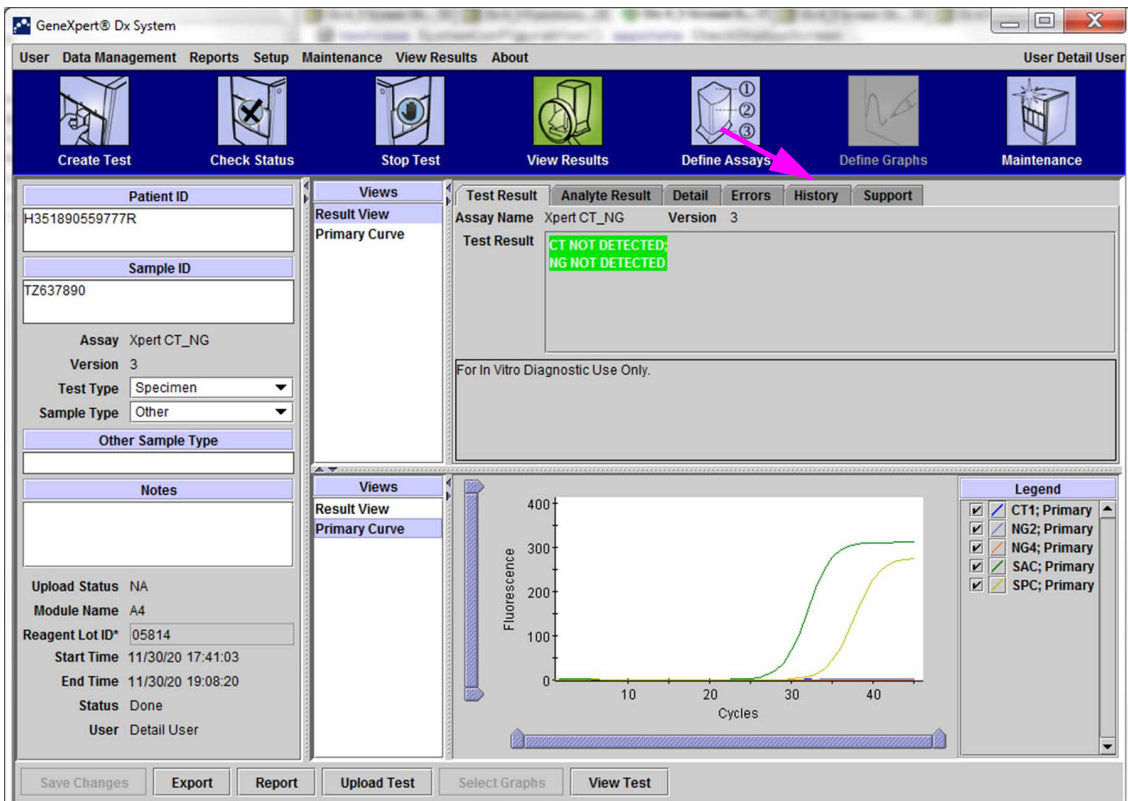
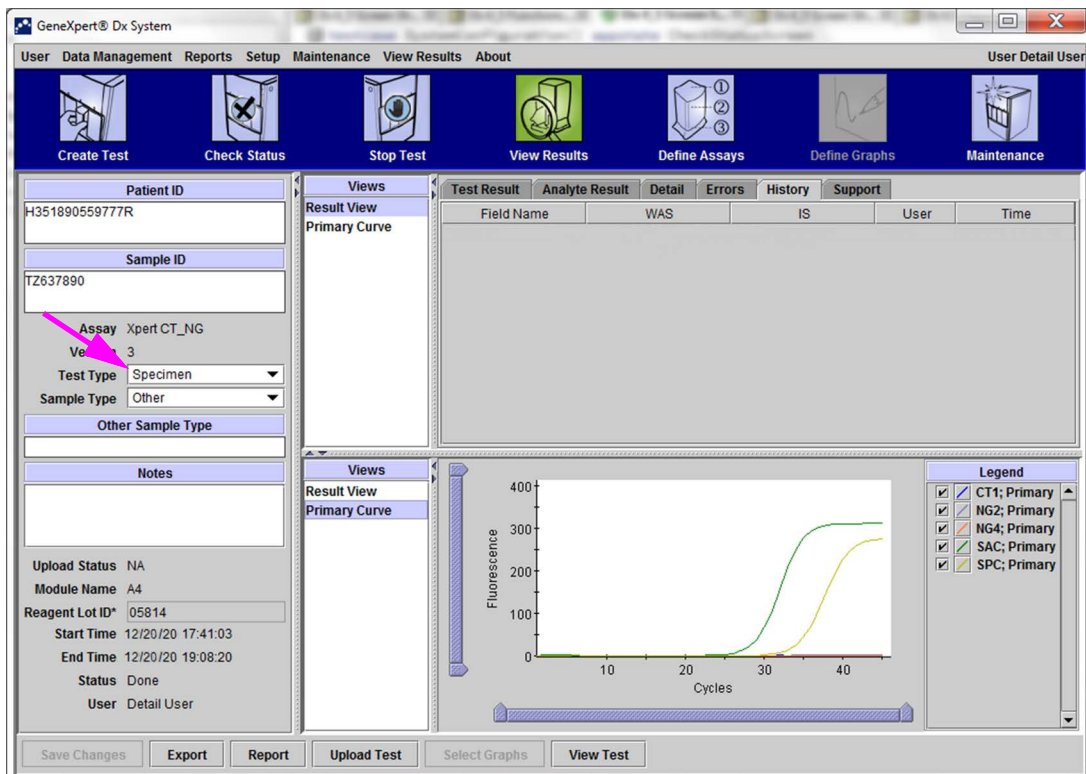

Figure 5-43. GeneXpert Dx System, View Results Window (Detail Users and Administrator View)
Figure 5-44. GeneXpert Dx View Results Window—History Tab Selected
2. Click the **History** tab in the View Results screen (see Figure 5-43). The **History** tab is displayed, showing that no changes have been made to the test. See Figure 5-44.